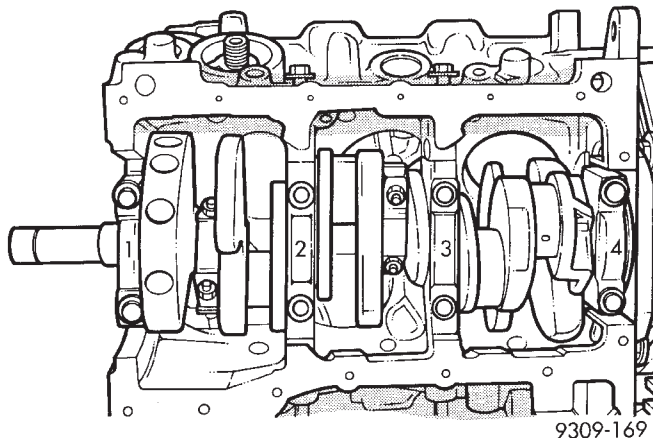
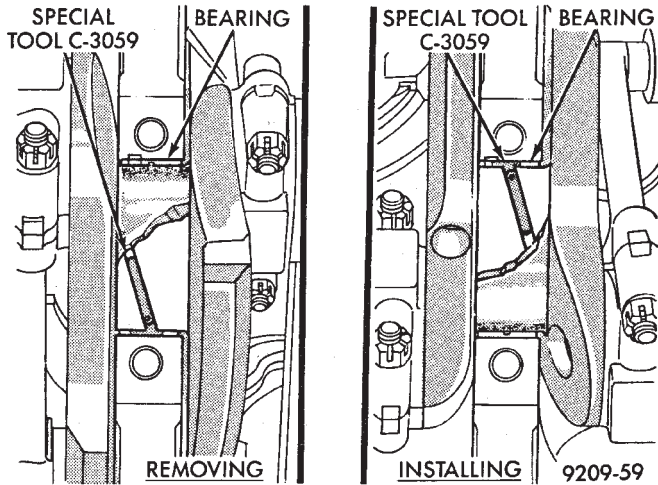
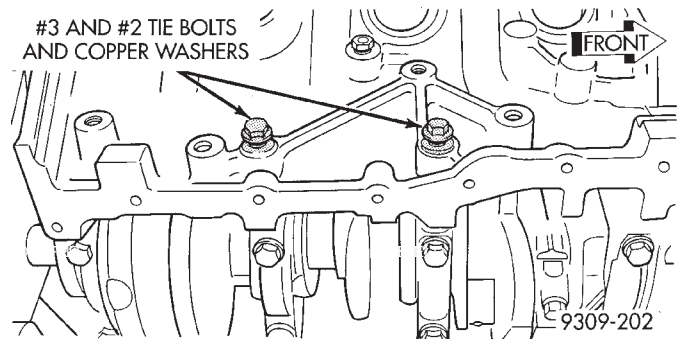

Fig. 83 Main Bearing Cap Identification
Fig. 85 Removing and Installing Upper Main Bearing With Special Tool C-3059
Fig. 86 Crankshaft Main Cap Tie Bolts
Bearing caps are not interchangeable and should be marked at removal to insure correct assembly. (Fig. 83) Upper and lower bearing halves are NOT interchangeable. Lower main bearing halves of 1, 2, 3 and 4 are interchangeable. Upper main bearing halves of 1, 3 and 4 are interchangeable.
(2) Remove bearing caps one at a time. Remove upper half of bearing by inserting Special Main Bearing Tool C-3059 (Fig. 85) into the oil hole of crankshaft.
(3) Slowly rotate crankshaft clockwise, forcing out upper half of bearing shell.
(1) Start bearing in place, and insert Main Bearing Tool C-3059 into oil hole of crankshaft (Fig. 85).
(2) Slowly rotate crankshaft counter-clockwise sliding the bearing into position. Remove Special Main Bearing Tool C-3059.
(3) Install each main cap and tighten bolts finger tight.
(4) Tighten number 1, 3 and 4 main cap bolts to 41 N·m + 1/4 Turn (30 ft. lbs. + 1/4 Turn) (Fig. 83). Then tighten the #3 tie bolts to 54 N·m (40 ft. lbs.) (Fig. 86).
(5) Rotate the crankshaft until number 6 piston is at TDC.
(6) To ensure correct thrust bearing alignment the following procedures must be done:
(7) Move crankshaft all the way to the rear of its travel.
(8) Then, move crankshaft all the way to the front of its travel.
(9) Wedge a appropriate tool between the rear of the cylinder block and rear crankshaft counterweight. This will hold the crankshaft in it's most forward position.
(10) Tighten the #2 Thrust Bearing cap bolts to 41 N·m + 1/4 Turn (30 ft. lbs. + 1/4 Turn). Then tighten the #2 tie bolts to 54 N·m (40 ft. lbs.). Remove the holding tool.